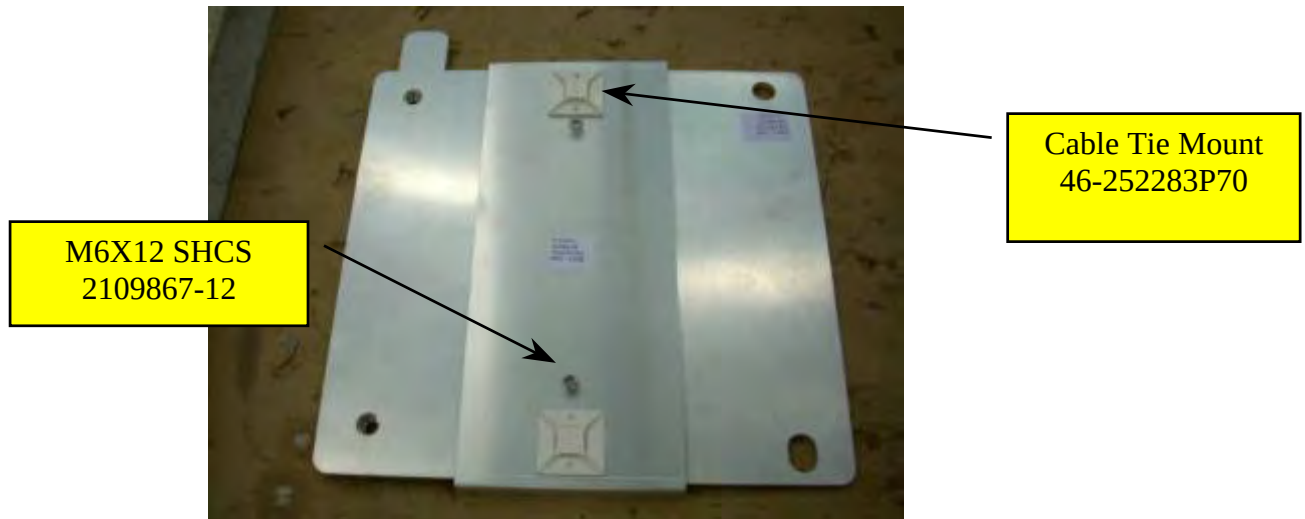

Figure 8
- E. On the front attachment bracket install the Cable guide bracket (5321625) using 2 M6X12 socket head cap screws (2109867-12). Peel off the adhesive backing from the Cable tie mounts (46-252283P70) and align the holes in the mount with the small holes on the outer side of the front bracket as shown. **(Fig 8)**